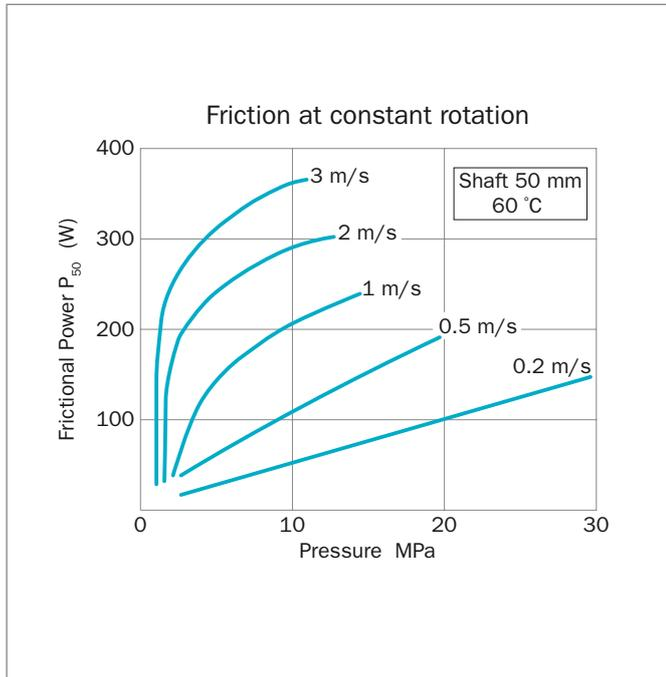

Figure 156: Frictional power for Turcon® Roto VL Seal®
Guide values for the frictional power (P) can be determined from the graph in Figure 156. They are shown as a function of the sliding speed and operating pressure for a shaft diameter of 50 mm with an oil temperature of +60 °C. At higher temperatures, these application limits must be reduced.